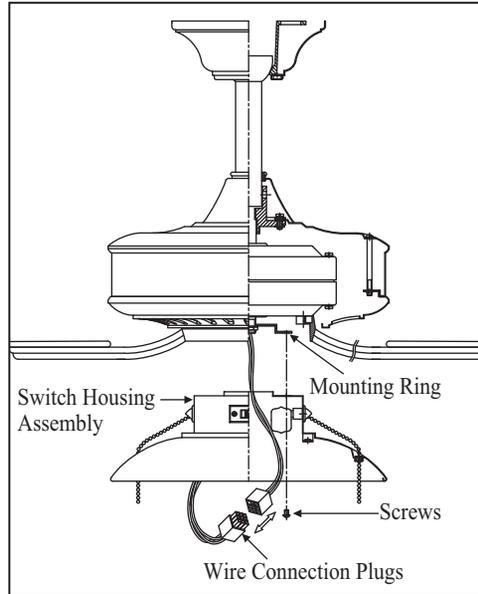

Figure 18
2. While holding the switch housing assembly under your fan, pass the wire connection plug from the motor through the switch housing assembly. (Fig. 18)
3. Place the key holes on the switch housing over the 2 screws previously loosened from the mounting ring, turn switch housing until it locks in place at the narrow section of the key holes. Secure by tightening the 2 screws previously loosened and the one previously removed (Fig. 18).
4. Snap the wire connection plug from motor and switch housing together. (Fig. 18)